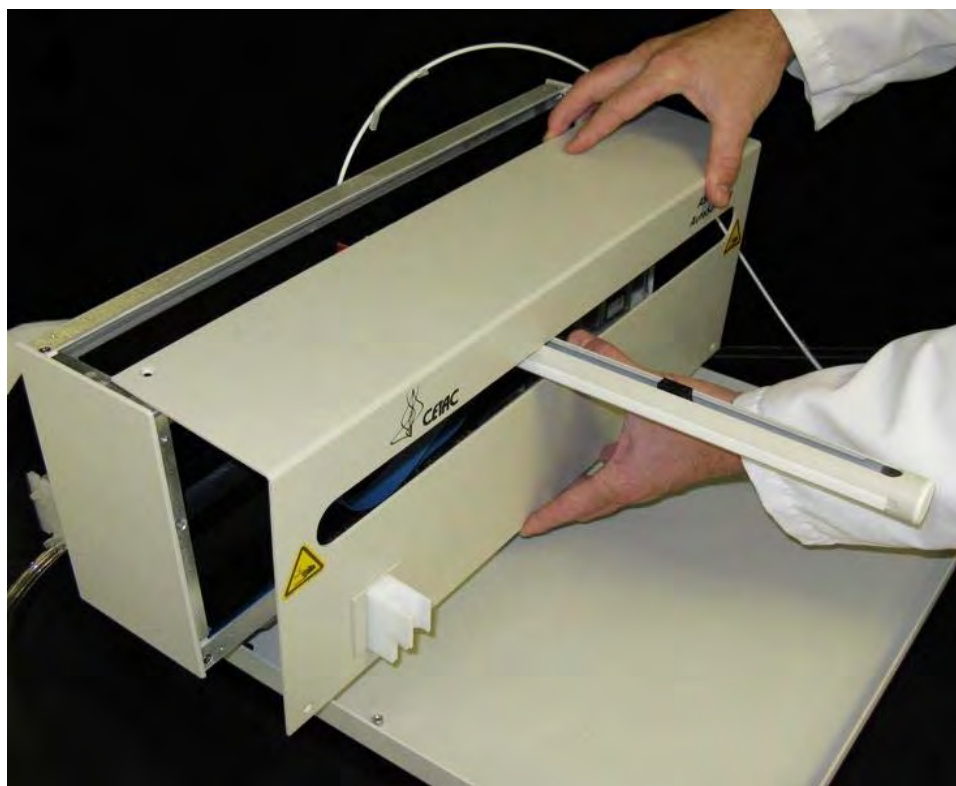

Figure 1-9. View of ASX-520 Auto Sampler with the front cover being removed.
7. The front cover can be removed by lifting it slightly and pulling forward. See Figure 1-9.